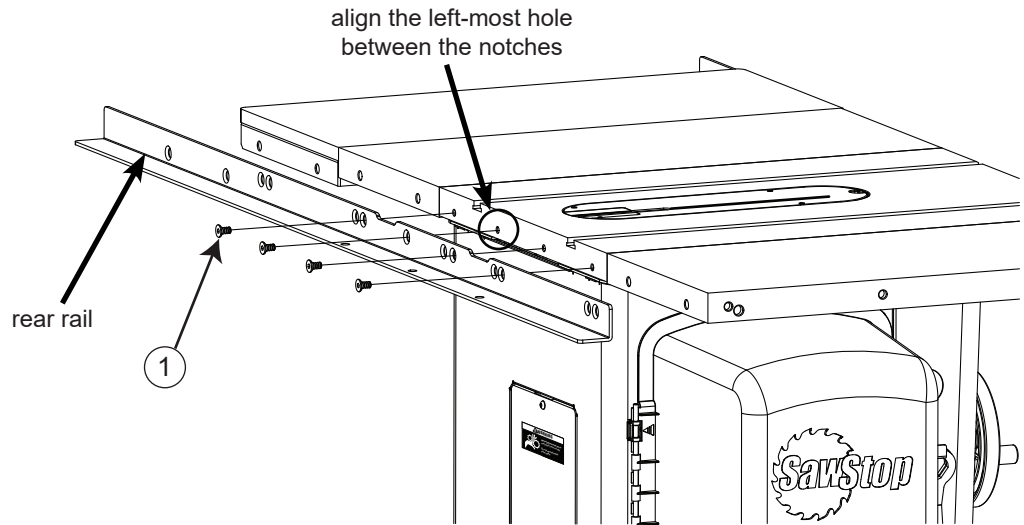

Fig. 6
6. Take the rear rail (the smaller of the two rails) and align it to the rear edge of your saw by centering the notches in the rail with the two miter slots in the table and aligning the left-most hole between the notches with the corresponding hole in the rear edge of the table. There are three holes in the rail between the notches, one solitary hole and two holes paired together, and the left-most hole is the solitary hole. Not all of the holes are used to mount the rail to your saw; different holes are used for different saws. Aligning the left-most hole aligns all the other holes used in mounting the rear rail to your saw. When the holes are aligned, mount the rear rail to the saw by taking four M8x1.25x16 flat-head socket bolts and threading one into each of the four threaded holes in the rear edge of the main table (see Fig. 6). Tighten the four bolts using a 5 mm hex wrench.